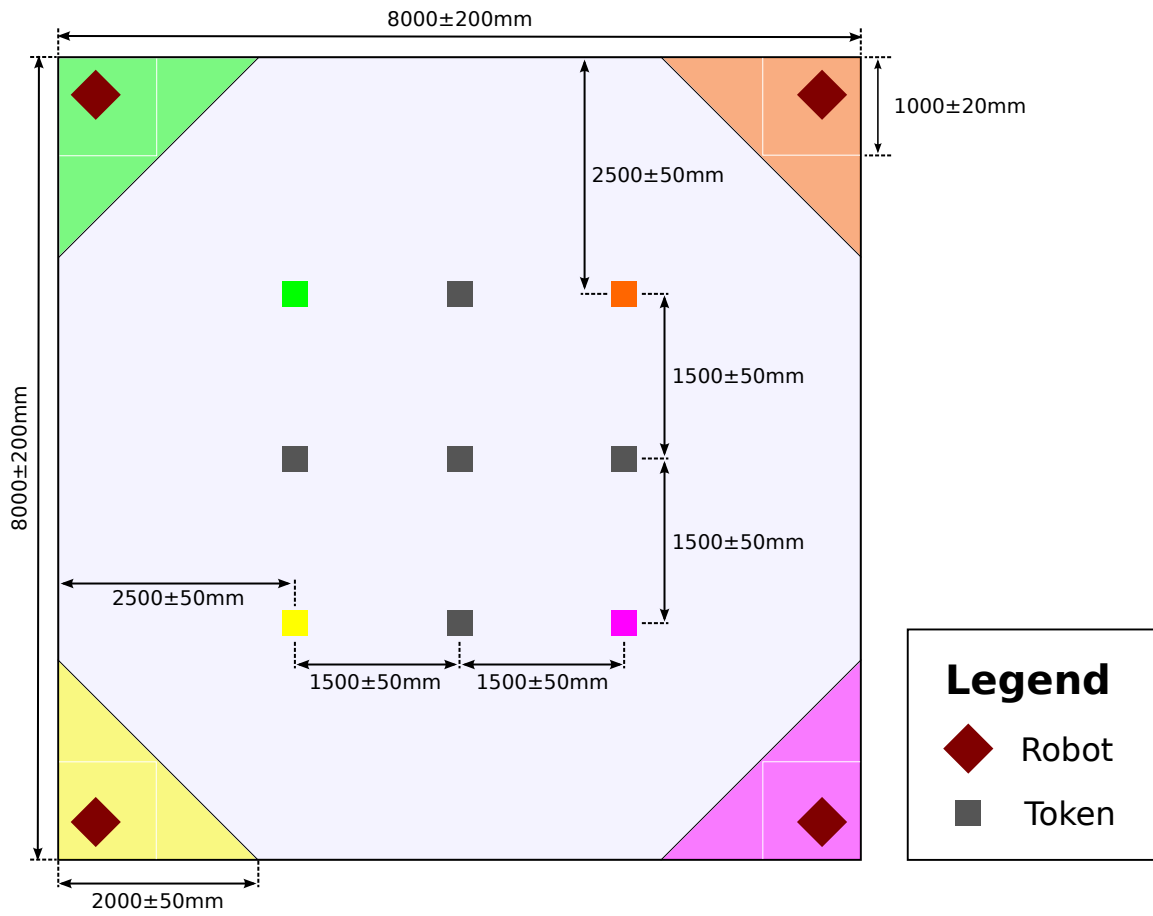

Figure 3: A bird's-eye view of the arena. All dimensions are in millimetres.
- 3.4.1 There are four zones in the arena, one in each of the corners. The arrangement and dimensions of these zones can be seen in figure 3.
3.5.5 There will be 9 tokens in the arena, at least one of each net. Their general starting positions can be seen in figure 3. The starting position of tokens of each net are not defined.